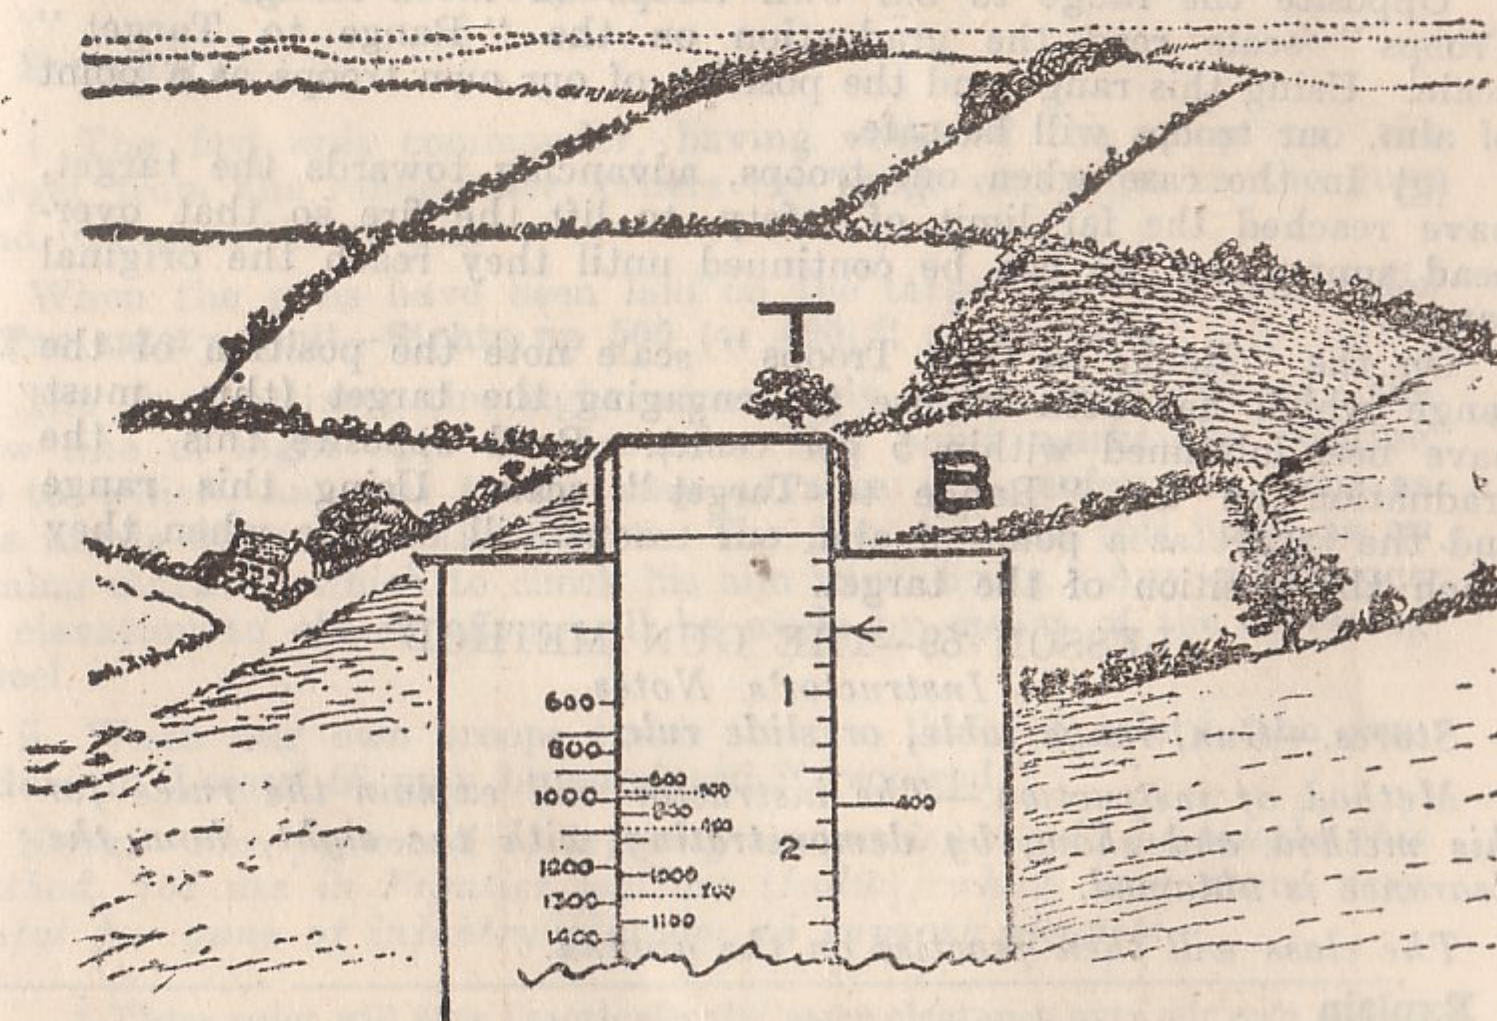

FIG. 22.
The fire controller picks up a point (B) short of the target T (Fig. 22) up to which he estimates our troops could advance with safety. He orders his range-taker to take the range to this point and obtains the range to the target. He sets the slide rule as in para. 1, above, taking the range to B as the range to our own troops. If the projection XY (Fig. 21) does not fit in between the lines of sight to B and T, our fire must cease at some point nearer the gun than B. If it fits in with some amount to spare, then fire can be continued until our troops reach some point closer to T.